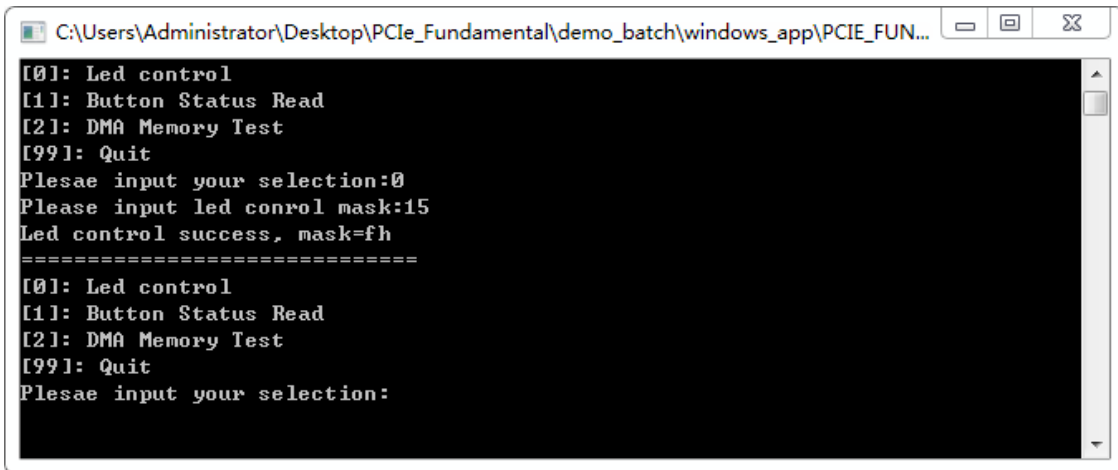

Figure 7-12 Screenshot of LED Control
7. Type 0 followed by a ENTER key to select Led Control item, then input 15 (hex 0x0f) will make all led on as shown in **Figure 7-12**. If input 0(hex 0x00), all led will be turned off.